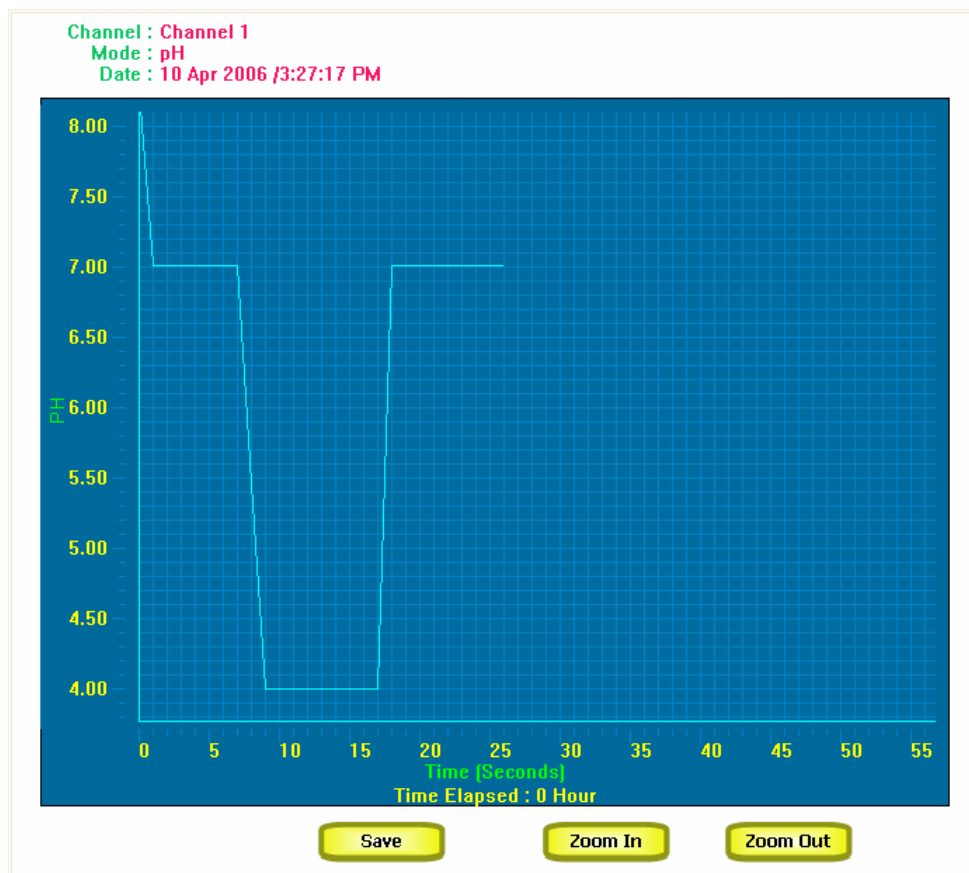

Figure 39 : View Graph
3. Click **View Graph** button. The plotted graph is shown. (Figure 39)